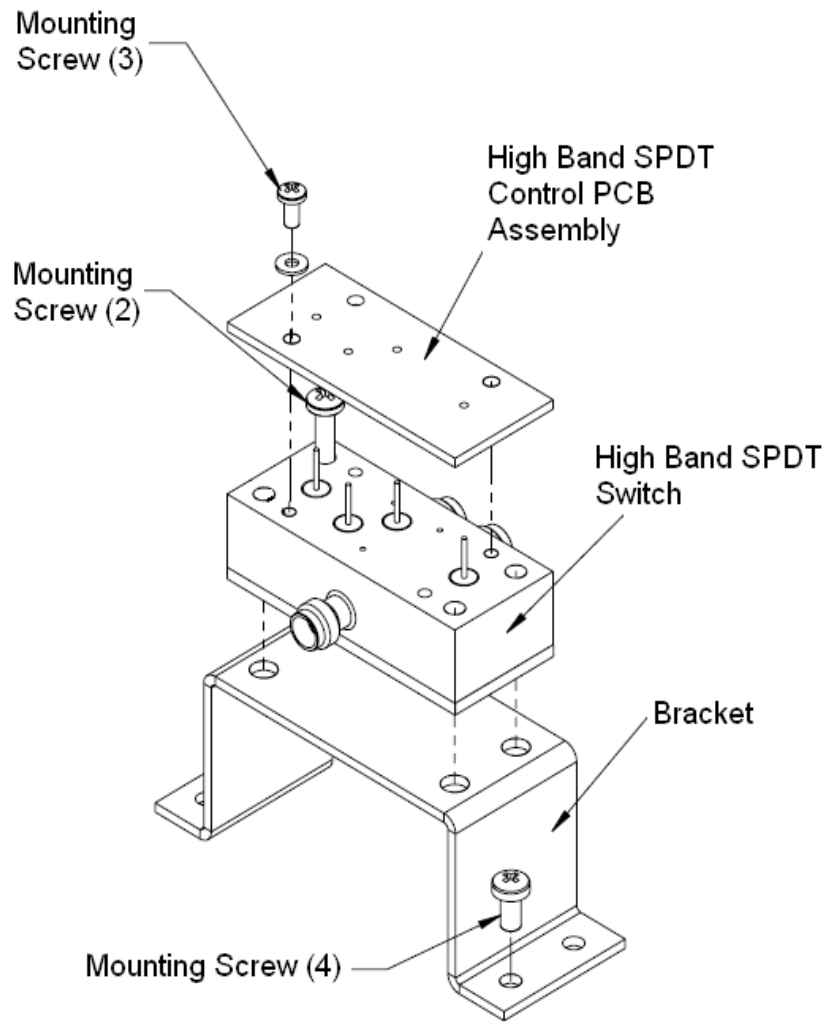

Figure 5-12. High Band SPDT Switch Removal
- See Figure 5-12, “High Band SPDT Switch Removal” on page 5-20 below.
- See Figure 5-12 below.